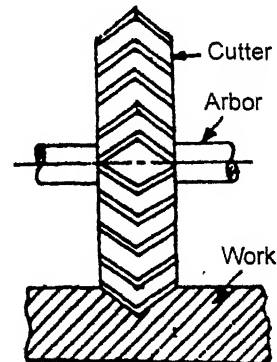

Fig. 10.50. Angular milling.
**3. Angular milling.** In angular milling, an angle milling cutter is used (Fig. 10.50). The cutter used may be a *single* or *double* angle cutter, depending upon whether a single surface is to be machined or two mutually inclined surfaces simultaneously.